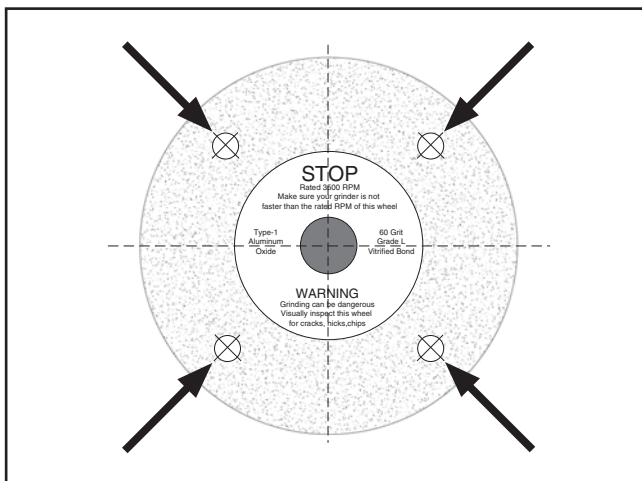

Figure 14. Tapping locations when performing a ring test.
3. At the spots shown in **Figure 14**, gently tap the wheel with a light non-metallic device such as the handle of a screwdriver or a wooden mallet.